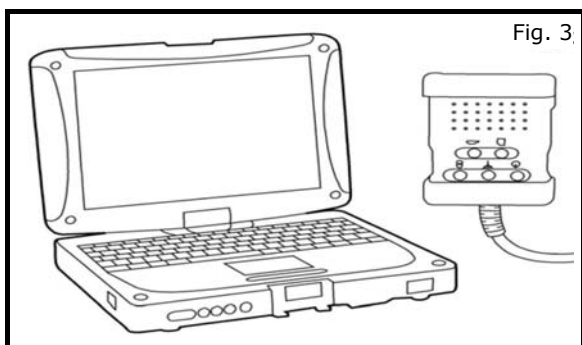

Fig. 3
- b) Connect CONSULT III plus tool to vehicle OBD connector as shown in Fig. 3.